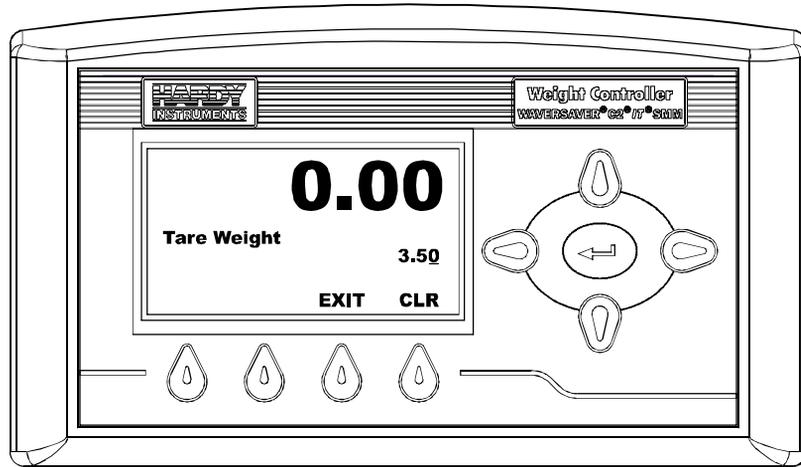

FIG. 83 TARE WEIGHT MENU
Step 2. Press the Enter button. The Tare Weight Menu appears. (See Fig. 83)
Step 3. Use the Left or Right Arrow buttons to move the cursor. When you have placed the cursor in the location you want, use the up or down arrows to enter the number and decimal point you want for this application. In our example we entered 3.50 for our Tare Weight. (See Fig. 83)